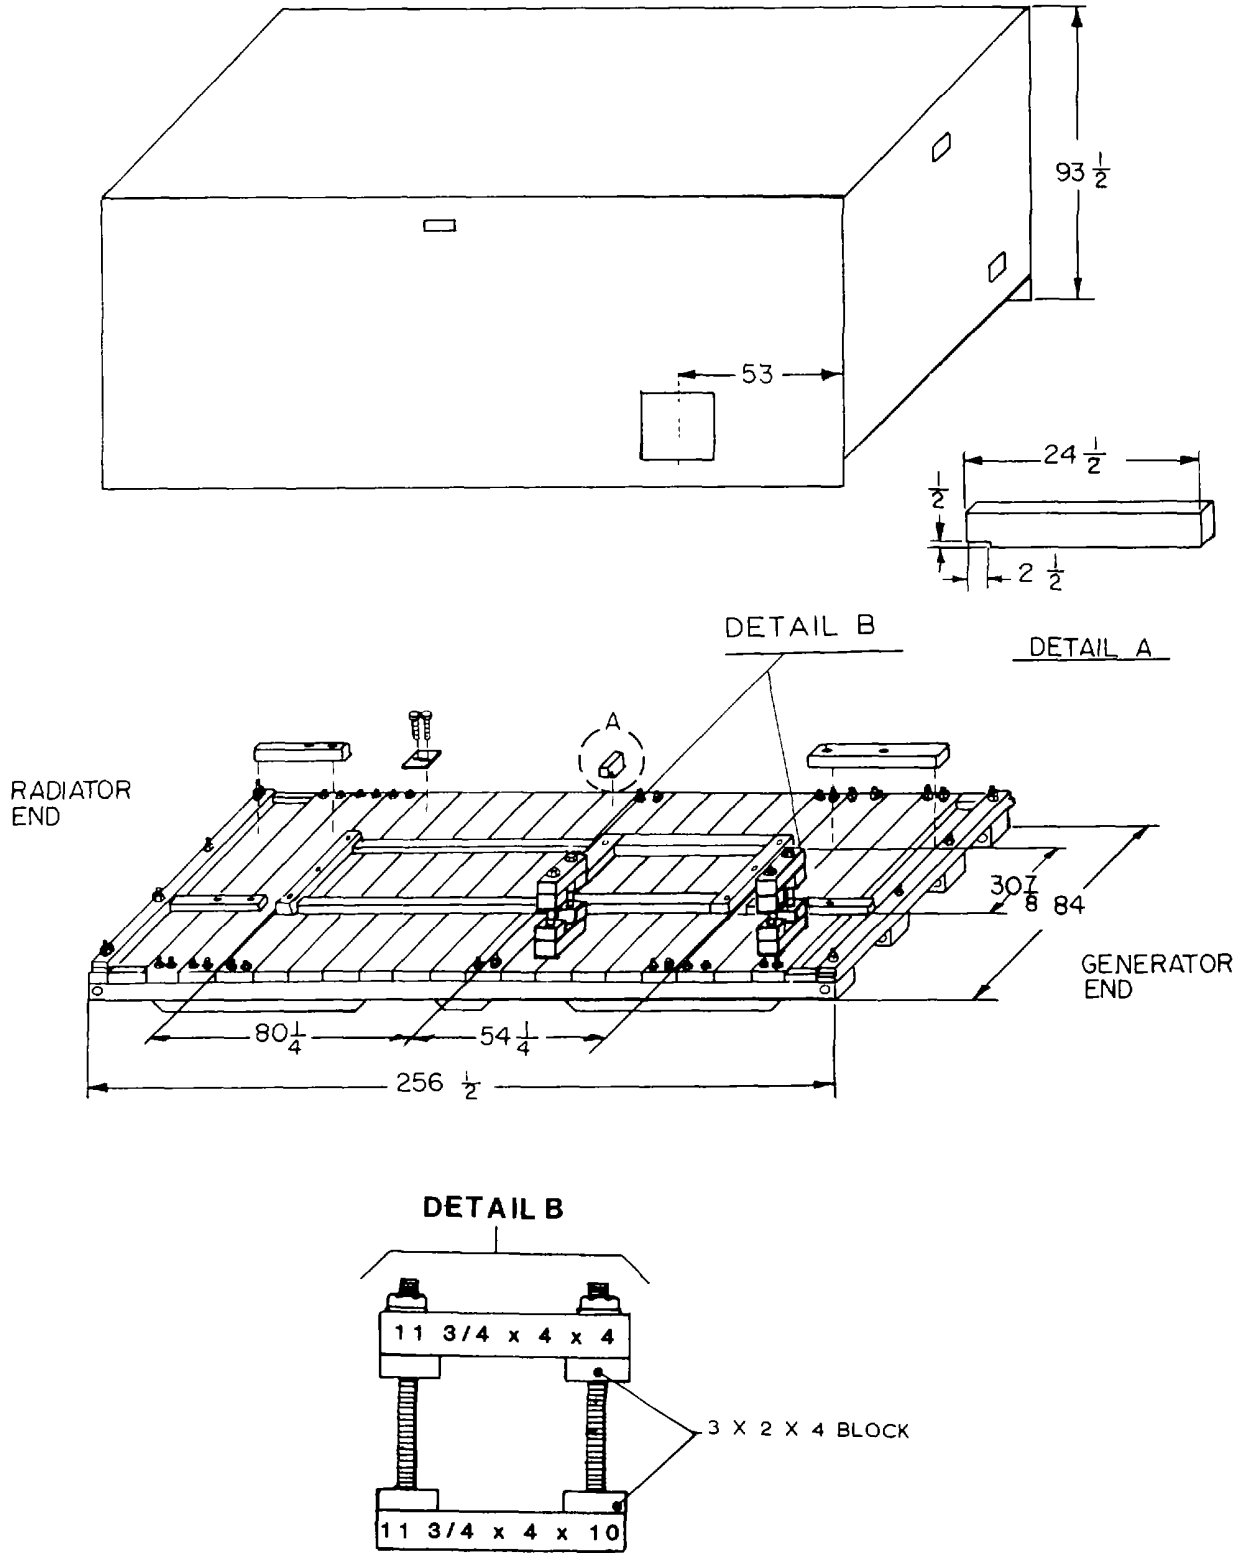

Figure B-2-1. Location of Blocking for the Generator.
<p>2 cont</p>	<p style="text-align: center;">NOTE</p> <p>The diesel generator and control unit requires similar crates. Refer to the material lists for the generator and control unit prior to fabrication of crates to enable cutting of like sizes at the same time.</p> <ol style="list-style-type: none"> (1) Fabricate a MIL-C-104 crate (252-1/2 X 81 X 93-1/2) in accordance with appendix D-3. Refer to table B-2-1 for a list of materials. (2) Cover base with MIL-B-121 barrier. (3) Bolt on nesting frame. Refer to figure B-2-1 for location. (4) Install generator and block. Refer to figure B-2-1 for location of blocking. (5) Apply a light film of MIL-C-16173, grade 1 preservative compound to the slings. (6) Mount the lifting device and slings on cradle beside one of the generators. Refer to figure B-2-1 for location. (7) Place crate top over generator and secure to base with FF-B-561 lag bolts (1/2 x 4). (8) Mark containers in accordance with appendix E and the following: <ol style="list-style-type: none"> (a) Mark all four sides of the container with 2-inch minimum size letters to indicate "REUSABLE CONTAINER - DO NOT DESTROY." (b) Mark the container in which the lifting device and slings are stored with 2-inch minimum size letters to indicate "LIFTING DEVICE HERE."